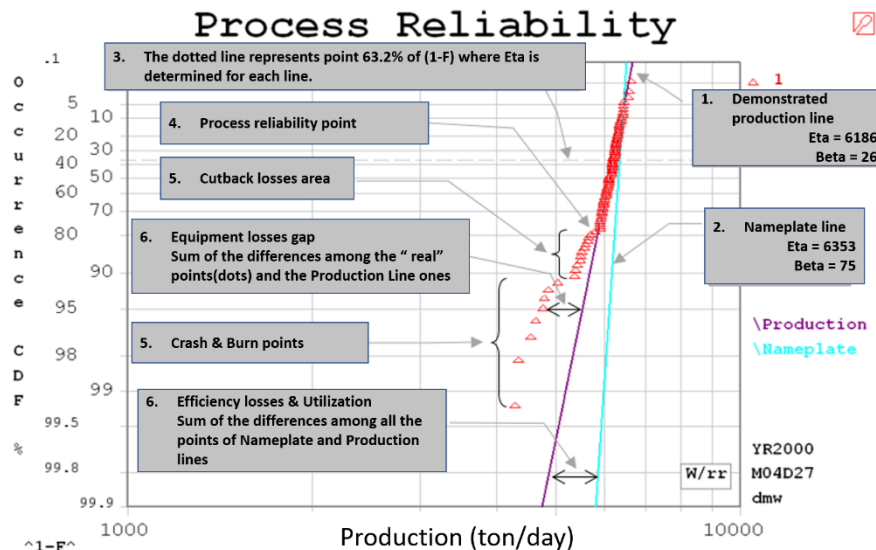

Figure 8 – Weibull's Probabilities Paper showing all information.
To extract all the information, perform the analysis, and provide improvement actions, you need to introduce the following concepts (shown in Figure 8) described below.
As per figure 8:
- **Demonstrated Production Line** - These are the actual results of Daily Production. In the example in Figure 8, it has a β of 26 and a η of 6186, ie 63.2% probability of producing 6186 tons or less daily.
- **Production losses by equipment** - This is the sum of the distances between the points and the Demonstrated Production curve (region shown in Figure 8).